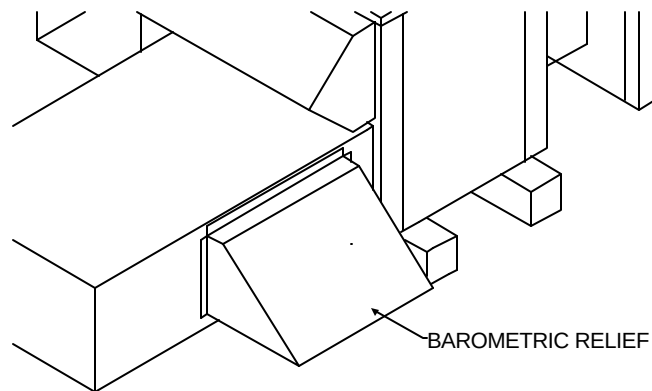

Figure 5
Install the barometric relief hood. Its upper flange should rest against the gasket strip on the Economizer. Holes will have to be drilled. Assemble the fresh air hood. Then place the fresh air hood over the opening with the bottom flange overlapping the relief hood flange. Secure to return air panel with screws provided. (See Figure 5).
If the barometric relief is to be installed cut a 18" x 20" hole in the return air duct near Economizer. (See Figure 5).
Secure pressure relief damper near Economizer over hole in return air duct using (4) screws. Refer to Figure 5.